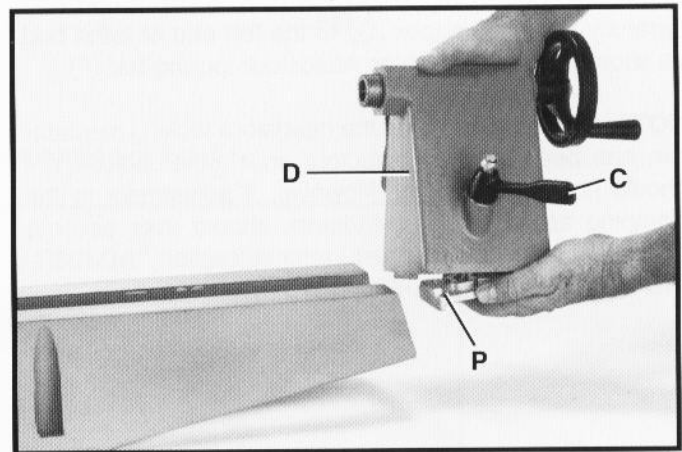

Fig. 14
7. Loosen tailstock locking lever (C) Fig. 14, and slide tailstock (D) into end of lathe bed. Make certain clamp (P) is in position inside channel of lathe bed.